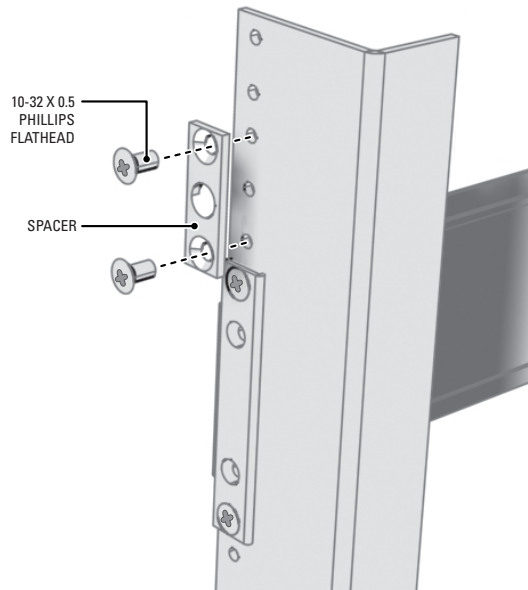

Figure 10. Attaching Rack Rail Spacers
8. Attach one rack rail spacer to the front of the equipment rack (refer to Figure 10 on page 17):